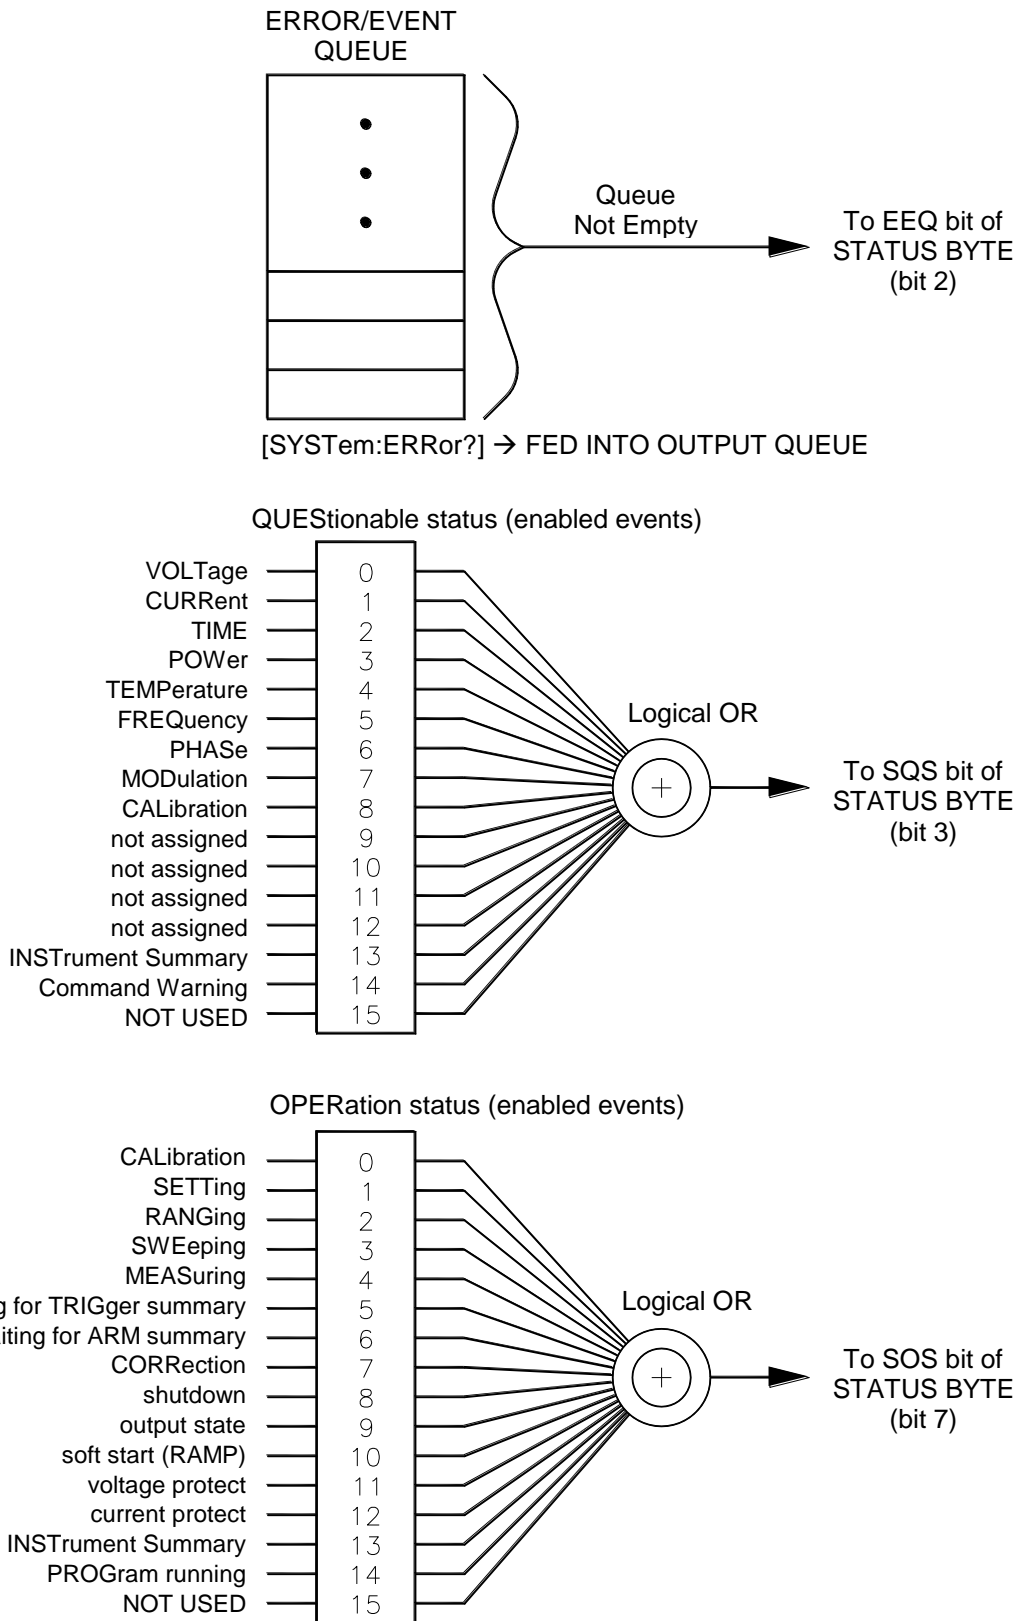

FIGURE 5.3 SCPI STATUS REGISTERS MODEL
The following lists the SCPI Commands for **Status Reporting** from the UPC. Refer to the SCPI 1992 standard for more information. Query commands are explicitly shown in this section for clarity (Figure 5.3). See \(5.2\) Conventions regarding SCPI.
- All :STATUS registers are 16 bits (Figure 5.3).